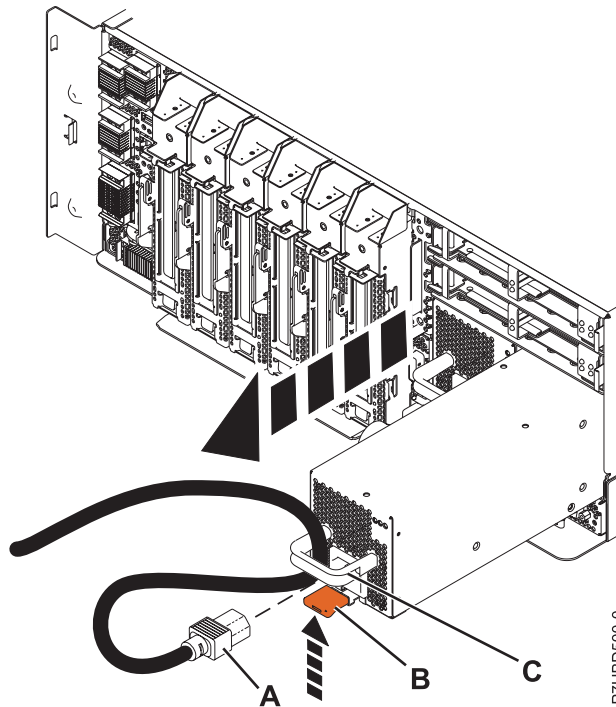

Figure 1. Removing the power supply
9. Pull the power supply away from the system, as shown in Figure 1.